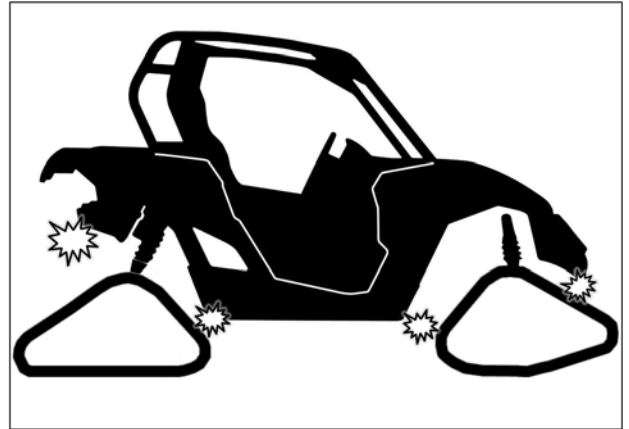

Fig. 29
2. Verify for possible contact between Track System and lower corners of fenders. See Fig. 29